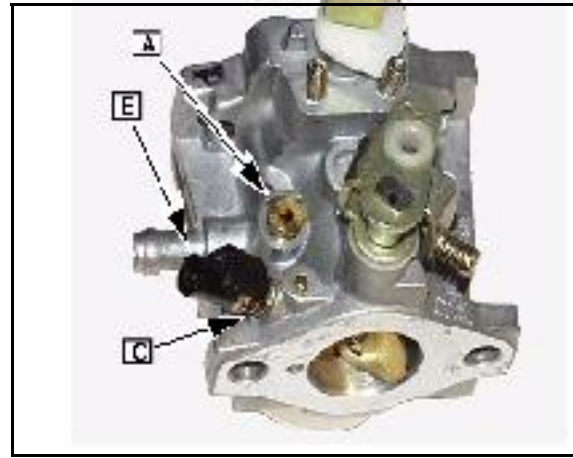

Fig. 31
7. Remove pilot jet (A) with Screwdriver # 19062.
8. Pry off the idle mixture valve limiter (B), if used. Remove the idle mixture screw and spring ([C] Fig. 31).